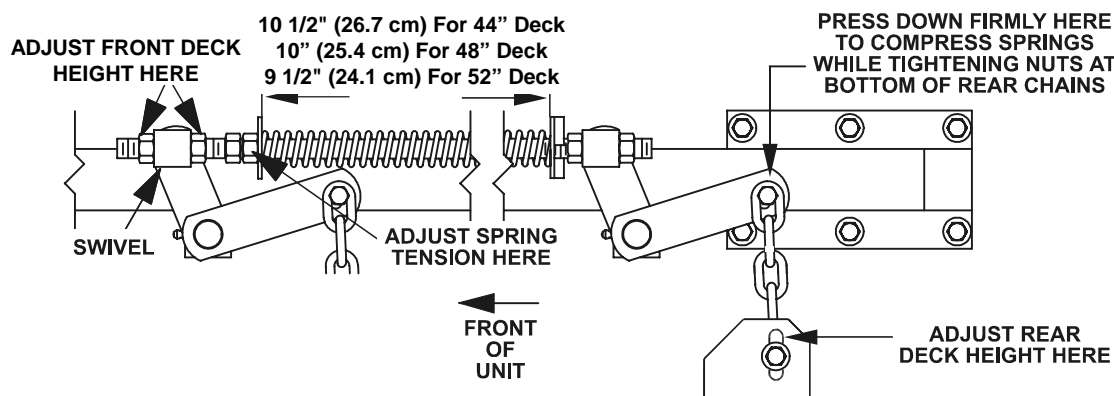

FIGURE 12
- e) Raise the deck to the 4.5" (11.4 cm) height position and take as much force as possible off of the two large deck lift springs by loosening the nuts at the front of each spring. See Figure 12.
- g) Loosen the two (2) bottom chain bolts in slots at the rear of the cutting deck. Loosen four (4) nuts which secure front swivels (two per side), until front chains are loose and front of deck is supported by the 1-1/8" (2.9 cm) block. Do not loosen front chain hardware.
- k) Raise deck lift lever to the 4.5" (11.4 cm) cutting height position (also transport position, See Figure 6. Adjust spring compression until proper distance is obtained between the two washers (See Figure 12) by turning the nut at the front of each spring. Lock nuts in position with jam nuts.